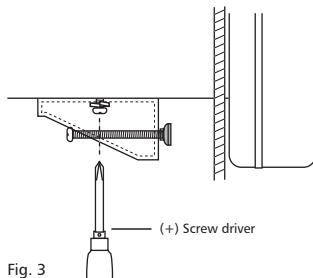

Fig. 3
4. Firmly fix the plastic mount block on the either side of the transceiver using shorter screw. Don't forget to attach the washer. (See Fig. 2 and Fig. 3)